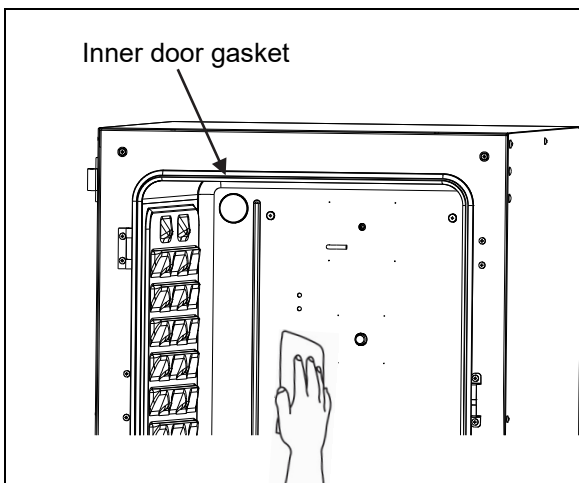

Fig. 1
2. Clean the inner attachments, the chamber inside walls, and the inner door gaskets with a cloth or sponge soaked in neutral detergent, diluted by 5 % or less (Fig. 1). (Undiluted detergent can damage the plastic components. For the dilution, refer to the instructions on the detergent.)